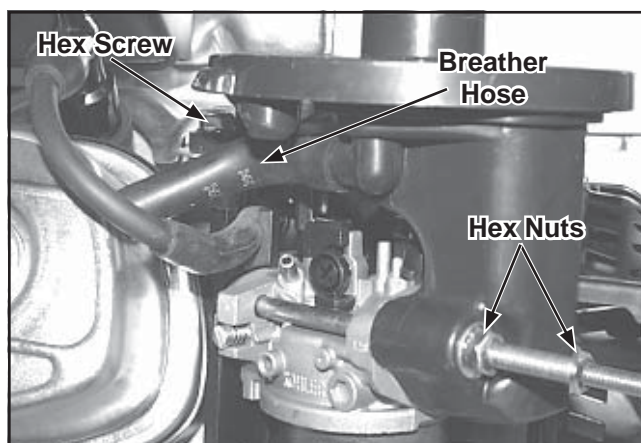

Figure 11-62. Air Cleaner Base Installation.
3. Install a new carburetor to air cleaner base gasket onto the carburetor mounting studs followed by the air cleaner base. Attach the breather hose onto the air cleaner base connection port. Connect the opposite end of the breather hose to the valve cover. See Figure 11-62.
4. Secure the base with the two hex flange nuts on the mounting studs and one hex flange screw through the top heat shield into the crankcase housing. Torque hardware to 8 N·m (71 in. lb.). See Figure 11-62.